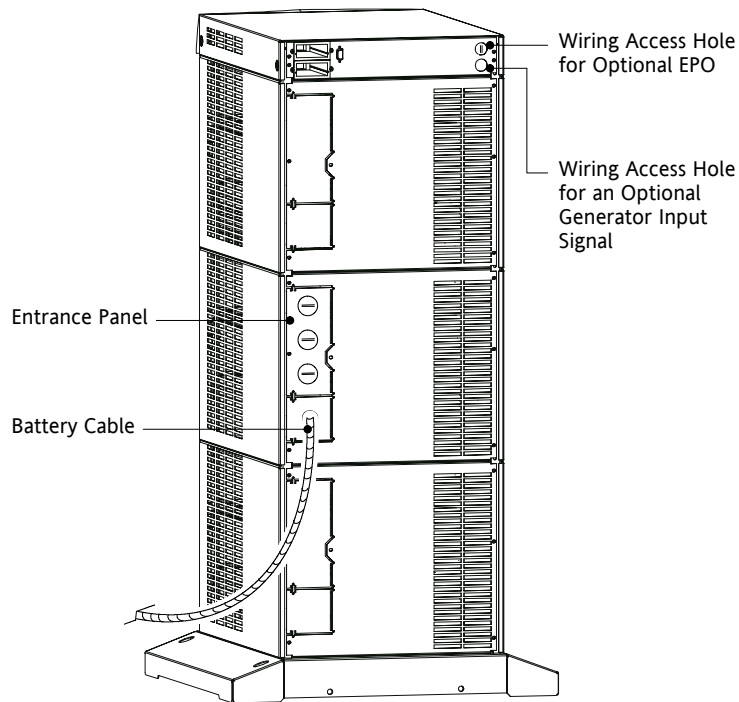

Figure 26. UPS Power Entrance Panel (Nine-Slot Cabinet Shown)
1. Unscrew and remove the rear panel(s) of the UPS (top panel on 3- or 6-slot; top 2 panels on 9- and 12-slot). See Figure 26.
The entrance panel contains knockout openings for entrance and exit conduits and for conduit to an optional external battery cabinet. The entrance panel is located on the top 3-slot section for 3- and 6-slot cabinets; on the second section for 9- and 12-slot cabinets as shown in Figure 26.